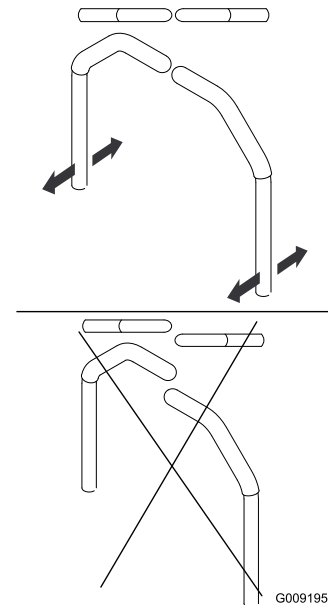

Figure 83
4. Align the levers in the front-to-rear position by bringing the levers together to the NEUTRAL position, and slide them until they are aligned, then tighten the bolts (Figure 83).